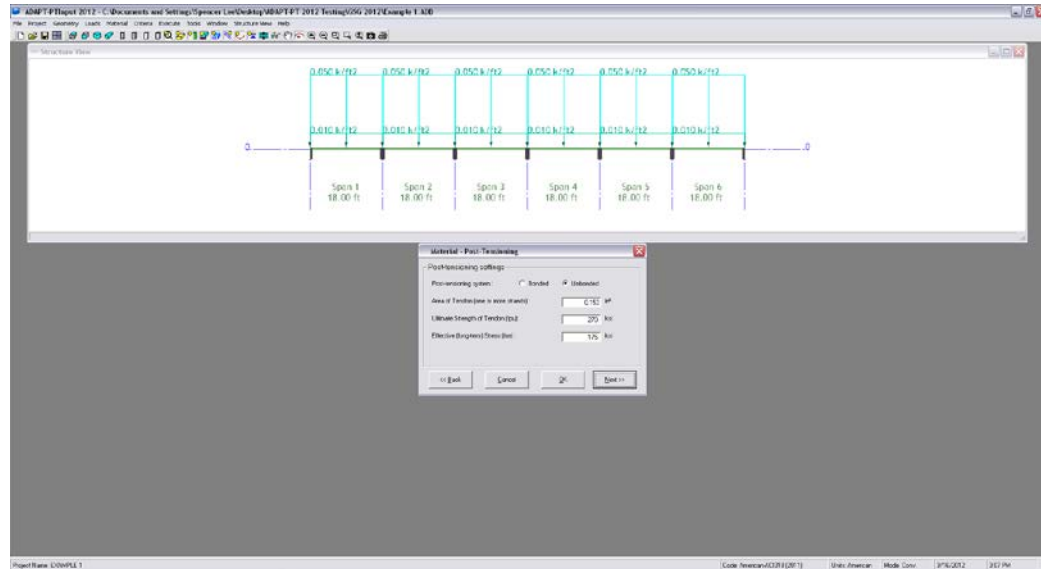

FIGURE 2.1-12
2.1.4.3 Enter The Post-Tensioning System Parameters (Fig. 2.1-12)